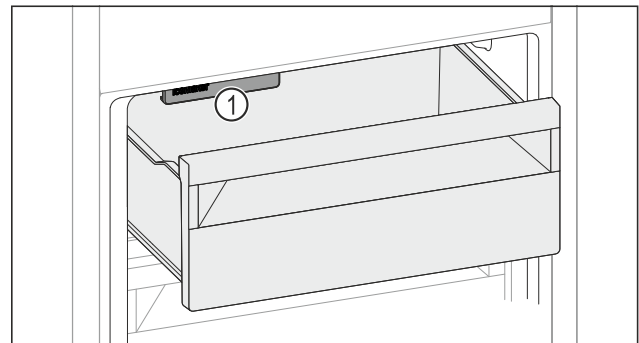

Fig. 177
- ▶ Pay attention to the IceMaker Fig. 177 (1).